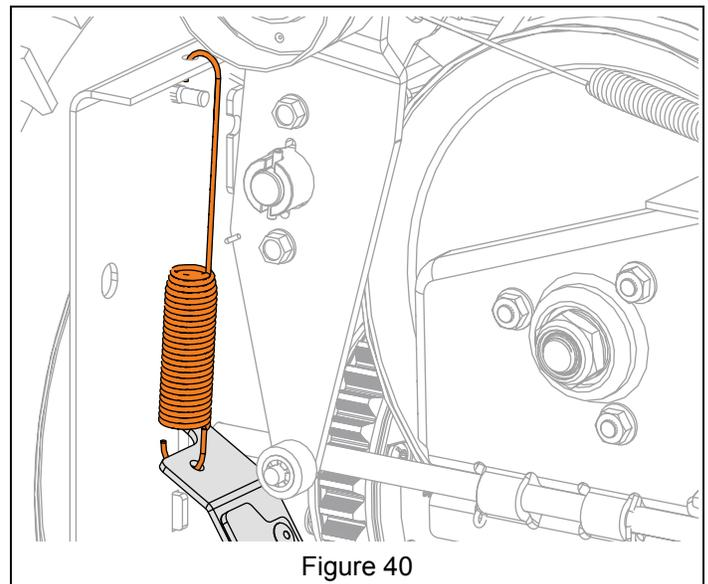

Figure 40
3. Reinstall attachment brake spring onto frame. See Figure 40.